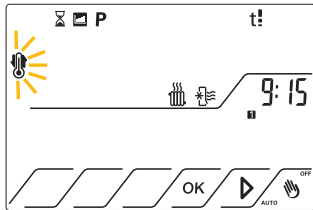

Fig.32
10.1.3 Press  up to position on  that it will start to flash. Fig 32
10.1.7 Press OK to confirm. Fig.32